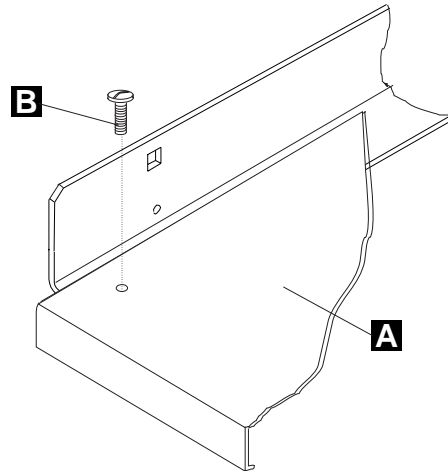

Figure 1-7. Detail of Lower Plate Installation
2. ____ Install the plate **A** (PN 42L2850). Secure it with four 8-mm M6 screws. (See Figure 1-7 on page 1-7.)